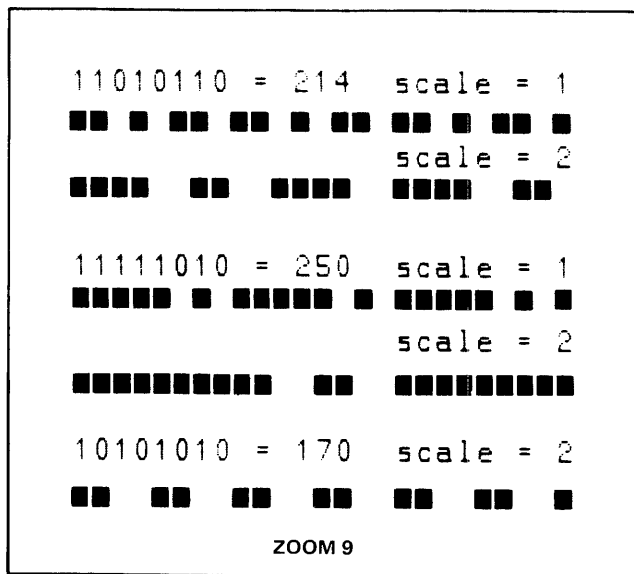

Figure 3-5. Examples of User Defined Line Patterns
**DEFINE LINE PATTERN.** The dot pattern used to draw vectors can be defined programmatically. Once a pattern is defined you must select the user defined line type (type = 2) using the Select Line Type command. Figure 3-5 gives examples of line patterns.